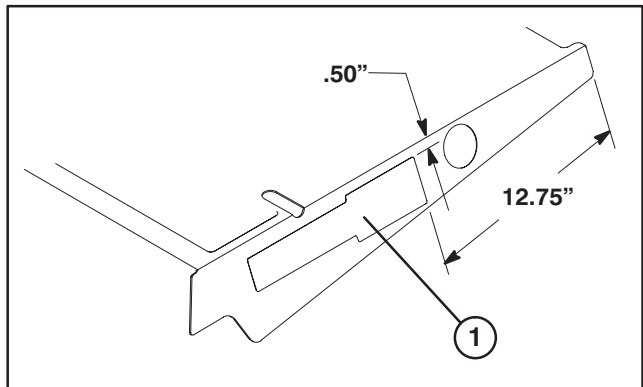

Figure 18
AFFIX DECALS (Fig. 18)
1. Using dimensions shown in figure 18, locate and affix a Reelmaster 2300 or 2600 decal to skirt on each side of machine.